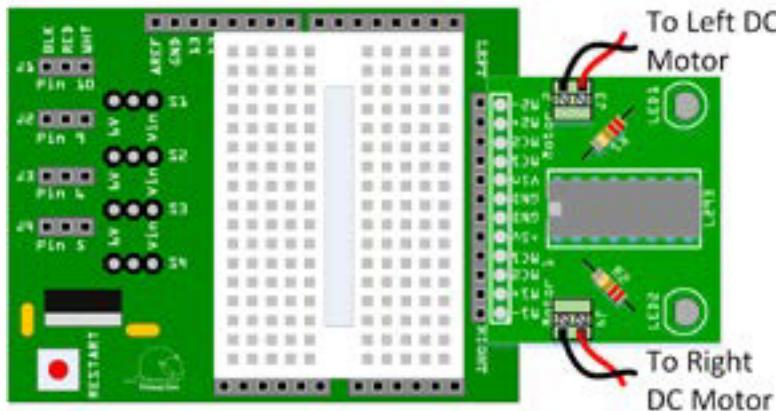

Figure 18-6. Position of the motor controller and H-bridge
1. Begin with the rolling robot as created for Lesson 15. Remove the infrared sensors, headlights, and associated wiring. The only remaining wiring should be the motors themselves. Viewed from the top, the motor controller and H-bridge will look like Figure 18-6.